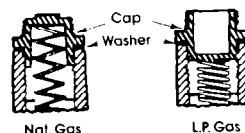

Figure 2
1. Remove the cap marked "NAT." and turn it over so it reads "L.P." Then replace the cap. Do Not disturb or remove the spring beneath the cap. Check that the fiber washer is between the cap and the body of the regulator. See Figure 2 for the correct position of the cap.